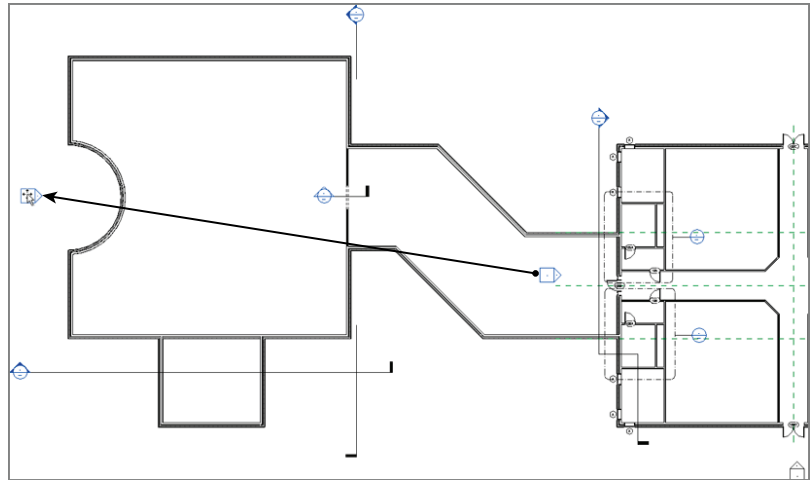

FIGURE 3.76: You can drag the elevation marker when the entire item is selected.
3. Move your mouse over the selection. Your cursor turns into a move icon with four move arrows, as shown in Figure 3.76.
4. Drag the elevation marker to the west side of the building (see Figure 3.76).